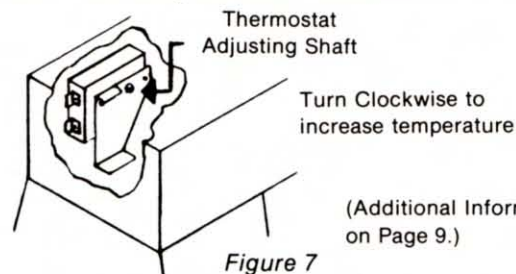

Figure 7
2. Remove two (2) screws from top cover.
3. Slide cover back, disconnect the (2) plugs and all switch wires and lift off cover.
4. Turn thermostat adjusting shaft. See Figure 7. For proper operation of the unit and optimum extraction of coffee, thermostat should cycle off between 190° F. and 200° F.